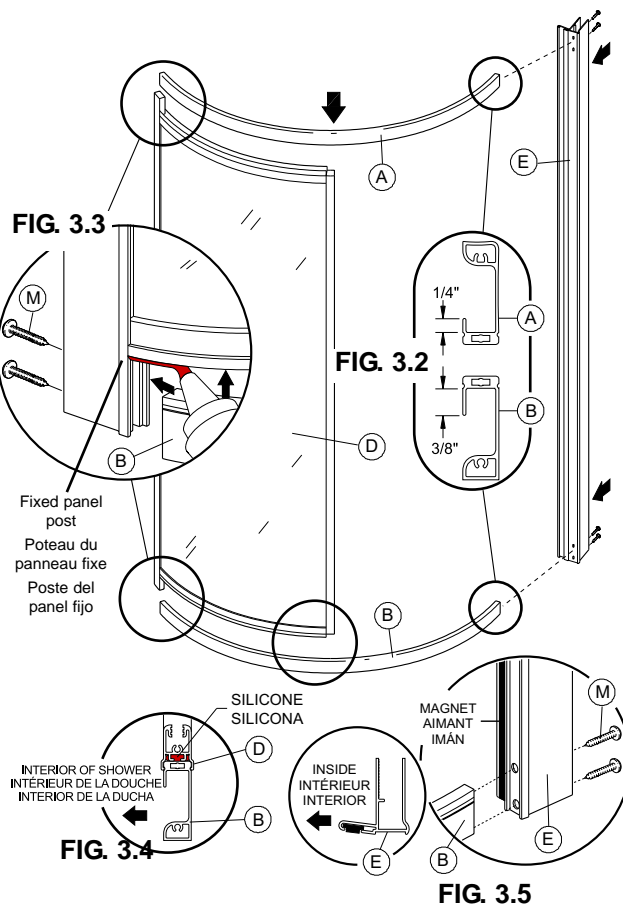

FIG. 3
- Fit the top and bottom rails into fixed panel (D). Press down firmly so panel (D) fits into rails (A and B) (Fig. 3). Make sure that the top and bottom rails are well supported against the post of the fixed panel (D) (Fig. 3.3).